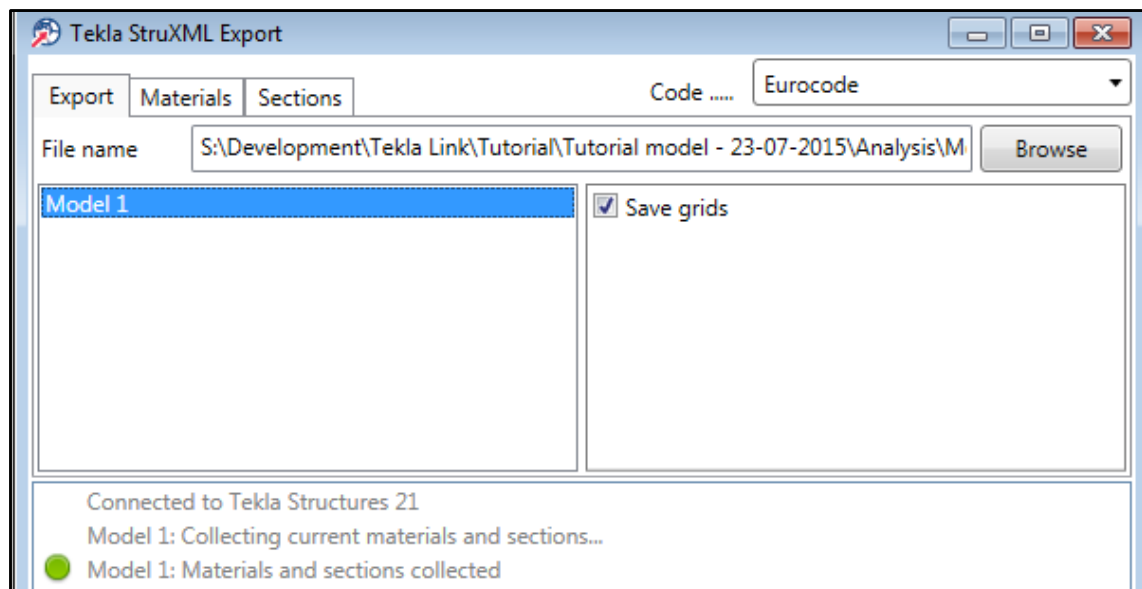

Figure 3-15
- c. Decide whether to export grid system or not. Check / uncheck the Save grids box in the upper right window, as shown in Figure 3-15.